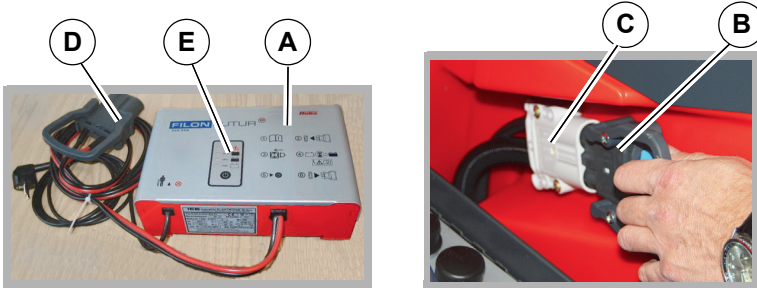

Fig. 24:
Charge the batteries with a stationary charger as, for example, shown in **Fig. 24-A**. The batteries can be charged if the battery capacity is less than 60 %.
2. Disconnect the battery plug **Fig. 24-B** from the machine plug **Fig. 24-C**.
3. Connect the battery plug to the plug of the charger **Fig. 24-D**.
5. The progress of the charging process is displayed in the display **Fig. 24-E** of the charger. The charge control indicator in the MFD of the machine is not active during charging with the stationary charger!
- Disconnect the battery plug from the plug of the charger and reconnect it to the plug of the machine **Fig. 24-C**.